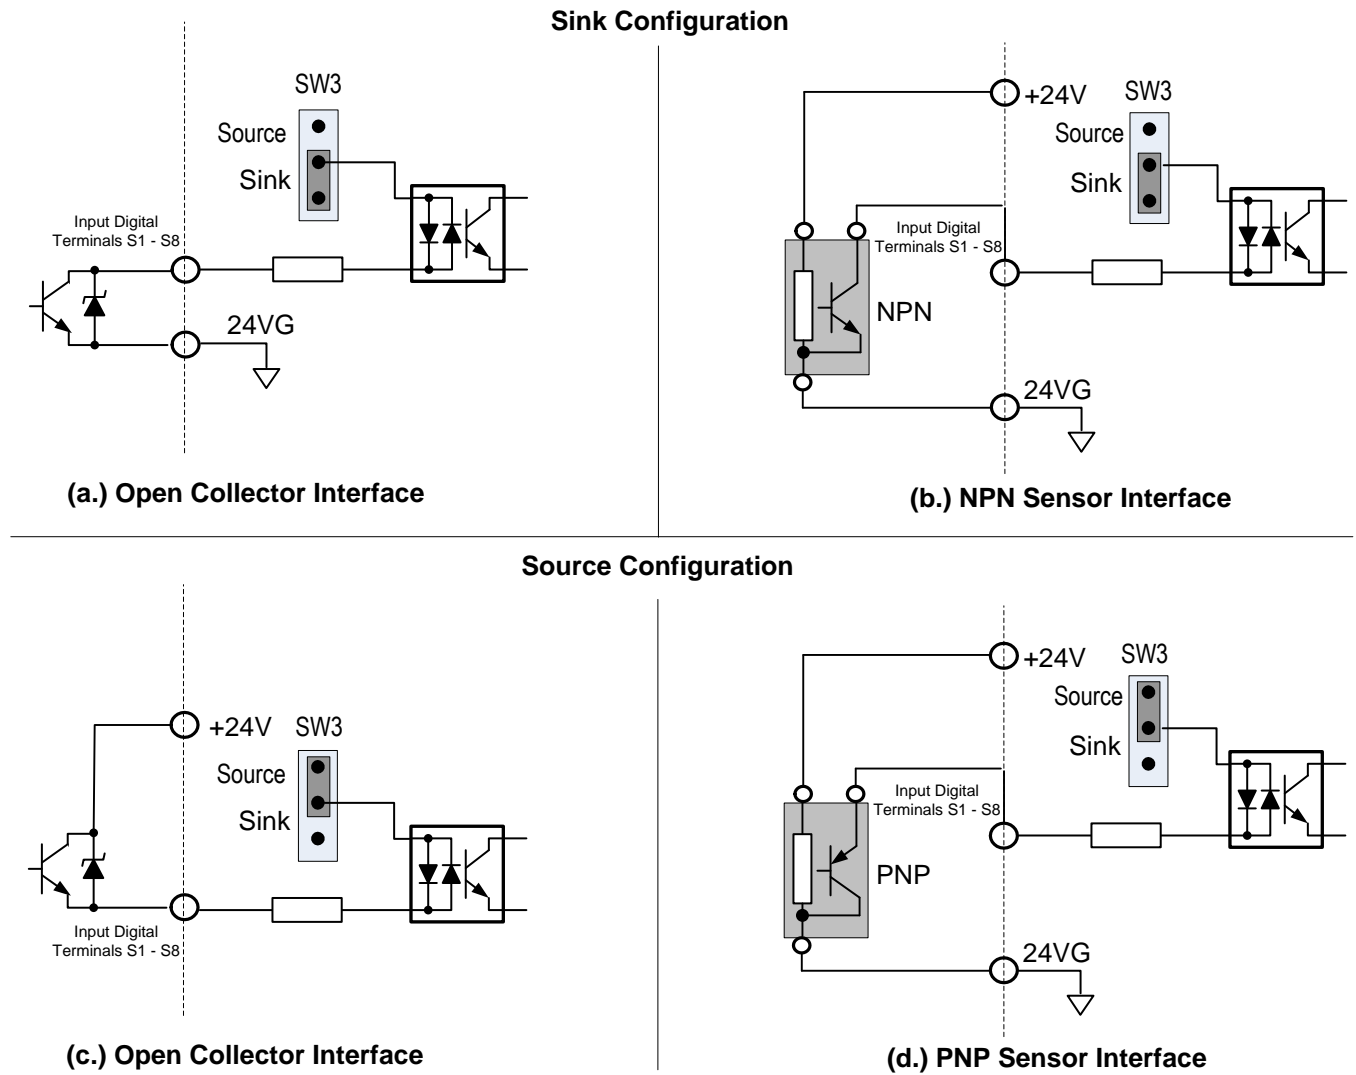

Fig. 3.17.3 Sink / Source Configurations
- (5) In Section 3.8 the control boards referenced have a jumper SW3 that can select the digital input to terminals ① - ⑧ to be set for SINK or SOURCE. The following Fig. 3.17.3 (a.) – (d.) shows examples for the various SINK / Source interfaces.